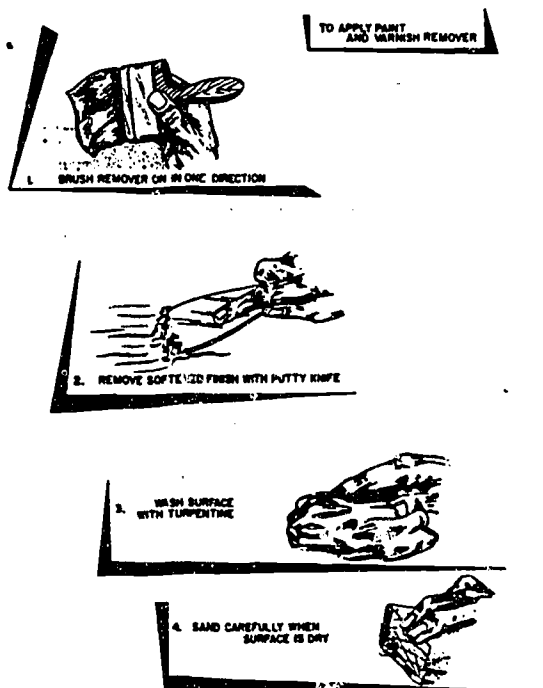

Figure 13. Removal using solvents.
c. Removal by solvents and scraping. Paint remover is a mixture of solvents which will soften old coatings of paint, varnish, lacquer, and shellac. After the old coatings have been softened, you can remove them with a hand scraper or a putty knife (see fig. 13). Paint remover comes in either liquid or paste form. Liquid remover dries rapidly, and for that reason, is used on small areas at a time. Paste remover remains moist for a considerable length of time and can be used on larger areas. The paste form is generally used on exterior walls because you can apply it easily to the vertical surfaces without it flowing off. You should apply the paste with a soft brush, using a mopping-type stroke. The paste should be applied across the boards and grain first. This will work the remover under the edges of the old coating along the strips of summerwood, and into the crevices between the boards. You should then smooth the paste in the direction of the boards or grain, redipping the brush into the paste if necessary to insure a generous, even covering by the remover. Do not brush more than is necessary as overbrushing causes evaporation of the liquids in the paste and slows the softening action. When liquid paint remover is used for small areas, you should brush it on freely in the direction of the board or grain only. In this manner a wax forms a leafed coat-